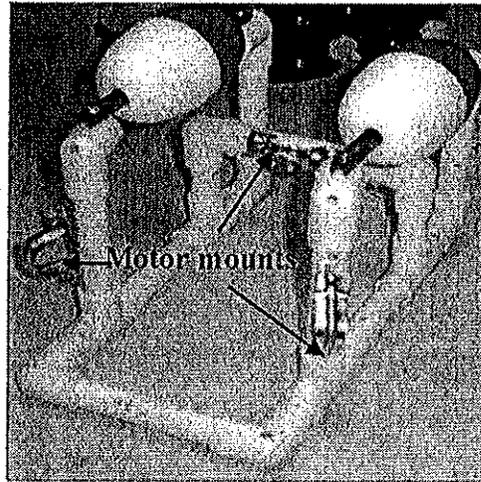

Figure 7: Motor mount placement
1. Hold motor mounts against frame in locations shown in Figure 7. It's more important to center them between the joints on the pipe than to get the right angle around the pipe.